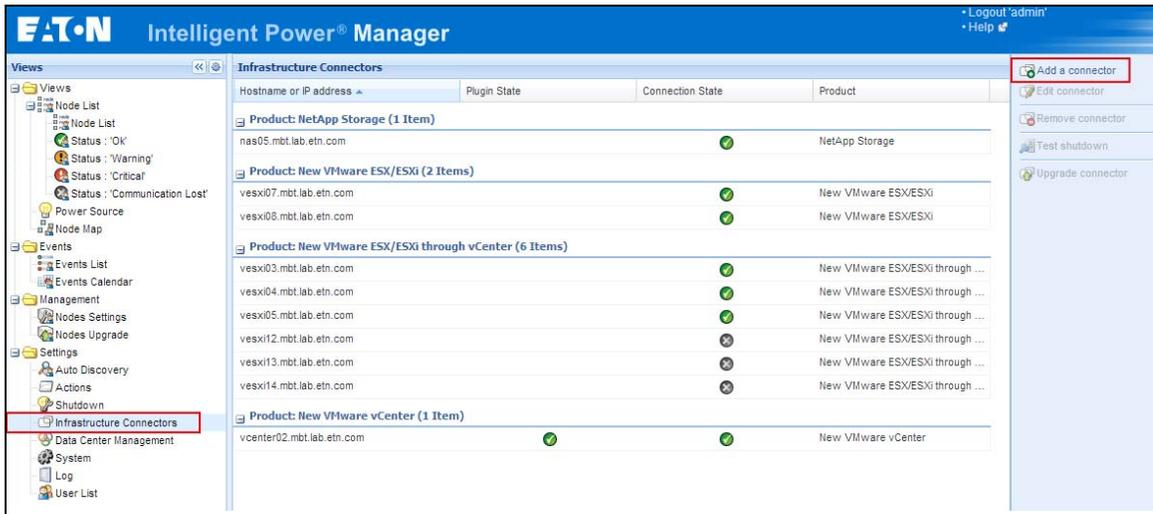

Figure 133. System Settings Page
1. From the left-side **Views** panel of the Eaton IPM main interface window, select the **Settings > System** menu item. The System page displays (see Figure 133).